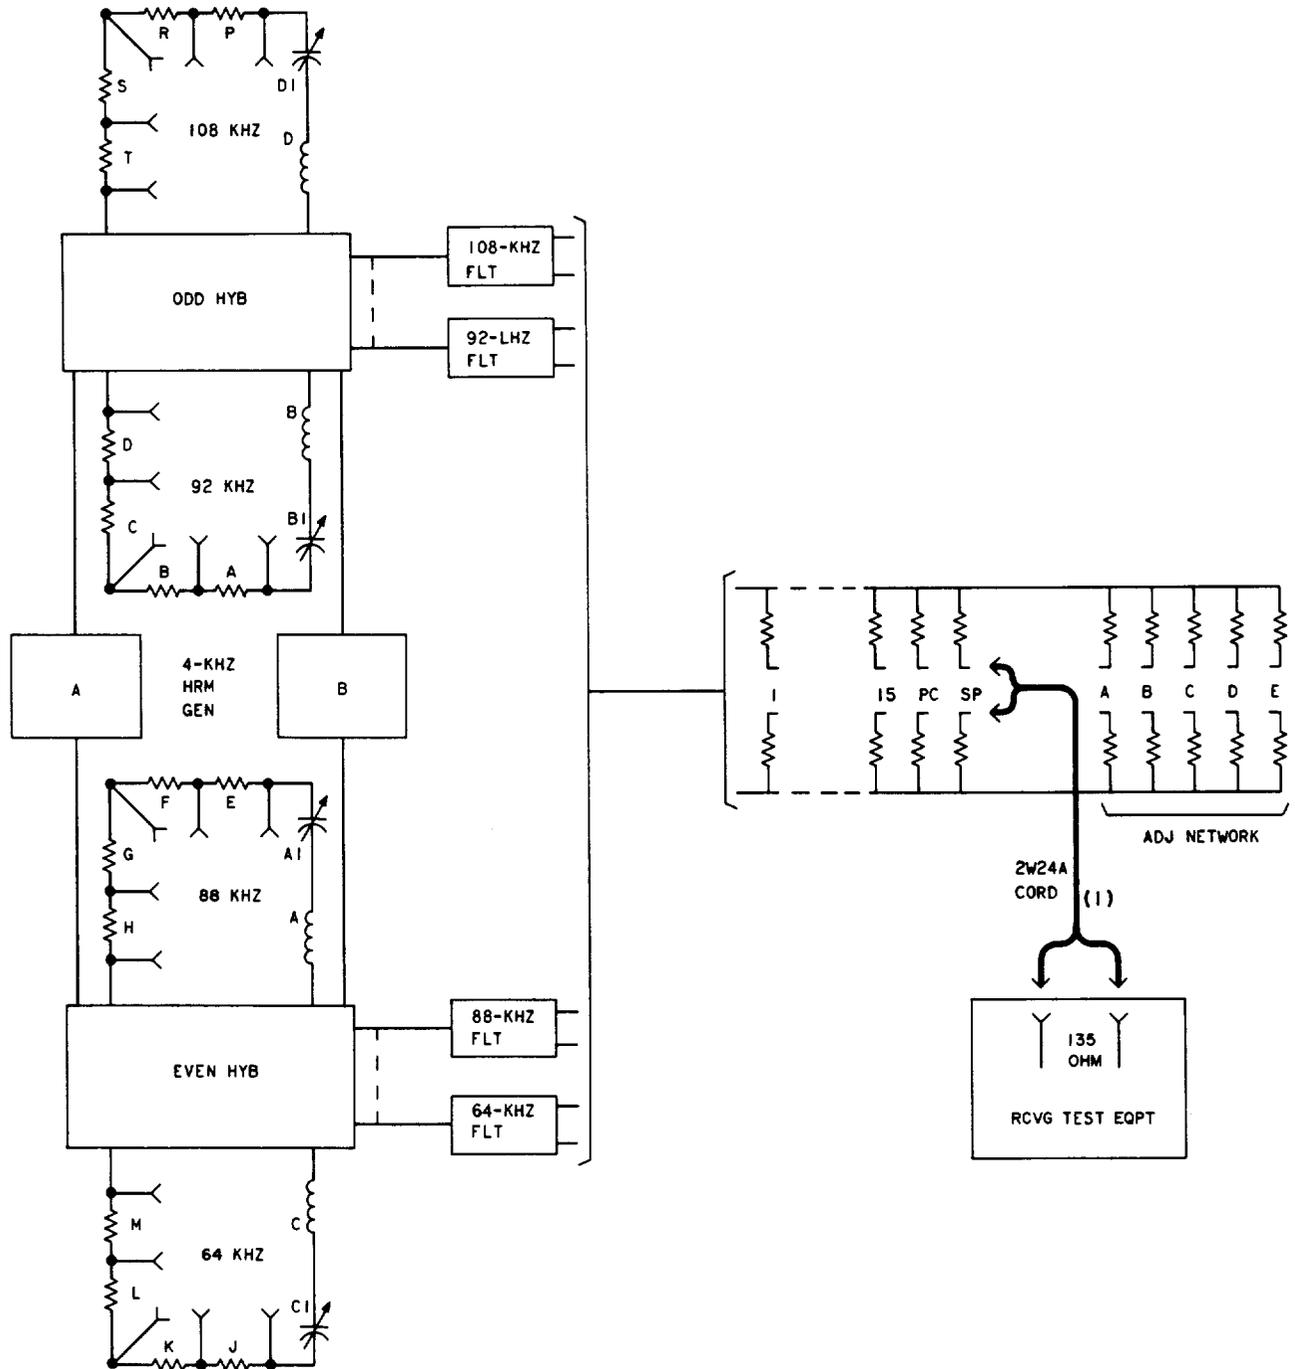

Fig. 2—Channel Carrier Distribution Circuit—Equalization of Pilot Frequencies
3	Connect the RTE across the SP tap or any available unused tap of the associated distribution bus [patch (1), Fig. 2].  Note: If unused taps are not available, connect the RTE across either the A, B, C, or D ADJ resistor.
12	Remove patch (1), Fig. 2.